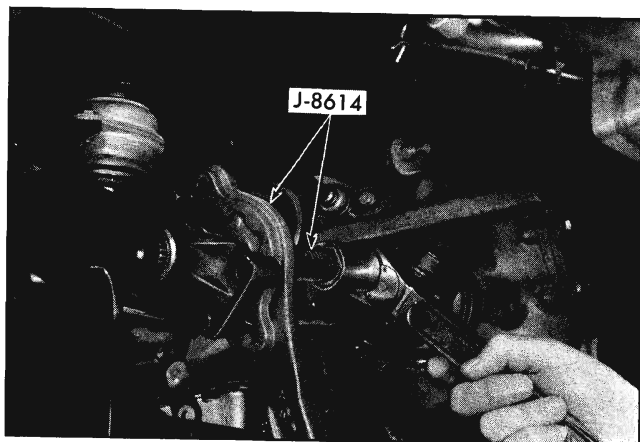

Fig. 4-8 Removing Flange from Axle Shaft
7. Remove flange from axle shaft using J-8614 (Fig. 4-8).